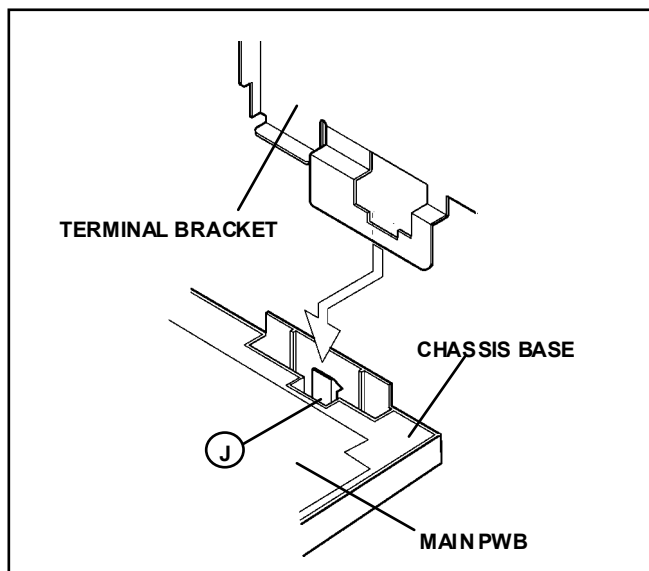

Fig.2
2. As shown in Fig.2, raise the claw marked (J) positioned back side of the chassis base, and lift the terminal bracket from the chassis base.